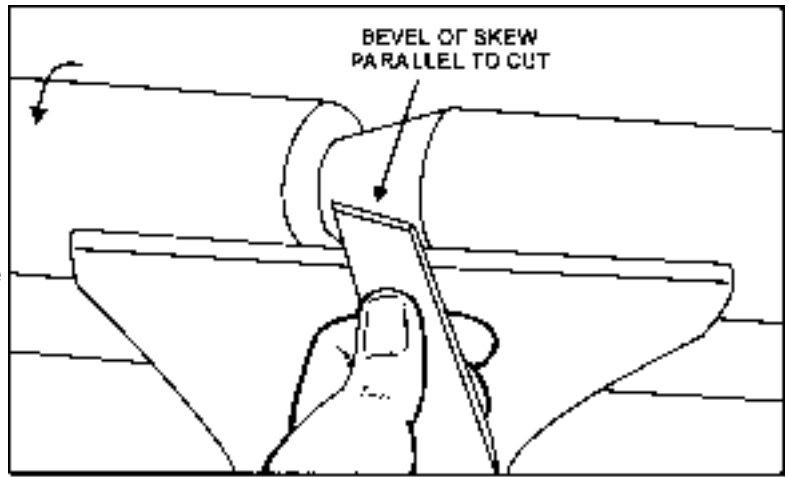

FIGURE 8
4. With the bevel parallel to the right side of the cut, raise the handle and push the tool in to the desired depth, Figure 8.